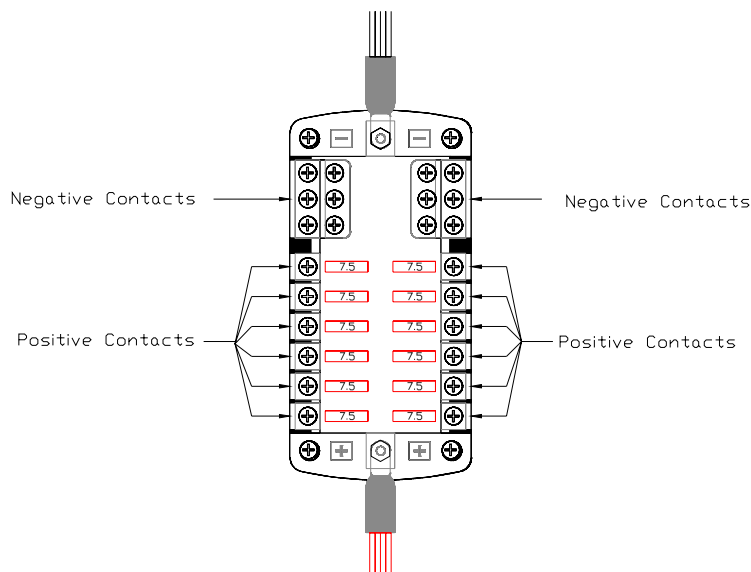

Figure 4.15; Combiner Box
- Step 11: Screw the Ring Terminal, Array One, to a Positive Contact on of Combiner Box One. In Figure 4.15 on Page 4-18, the Solar Panel 1 is connected to the fourth positive contact on the right side. This is position is not important.